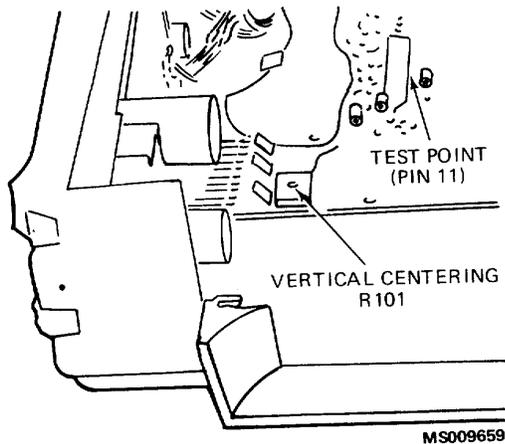

Figure 4-3. Location of Vertical Centering adjustment and test point.
- Connect the DC voltmeter between pin 11 of U105 (positive meter lead to pin 11) and ground (see Fig. 4-3).
- ADJUST-Vertical Centering, R101 (see Fig. 4-3) to position the trace to the center horizontal graticule line.